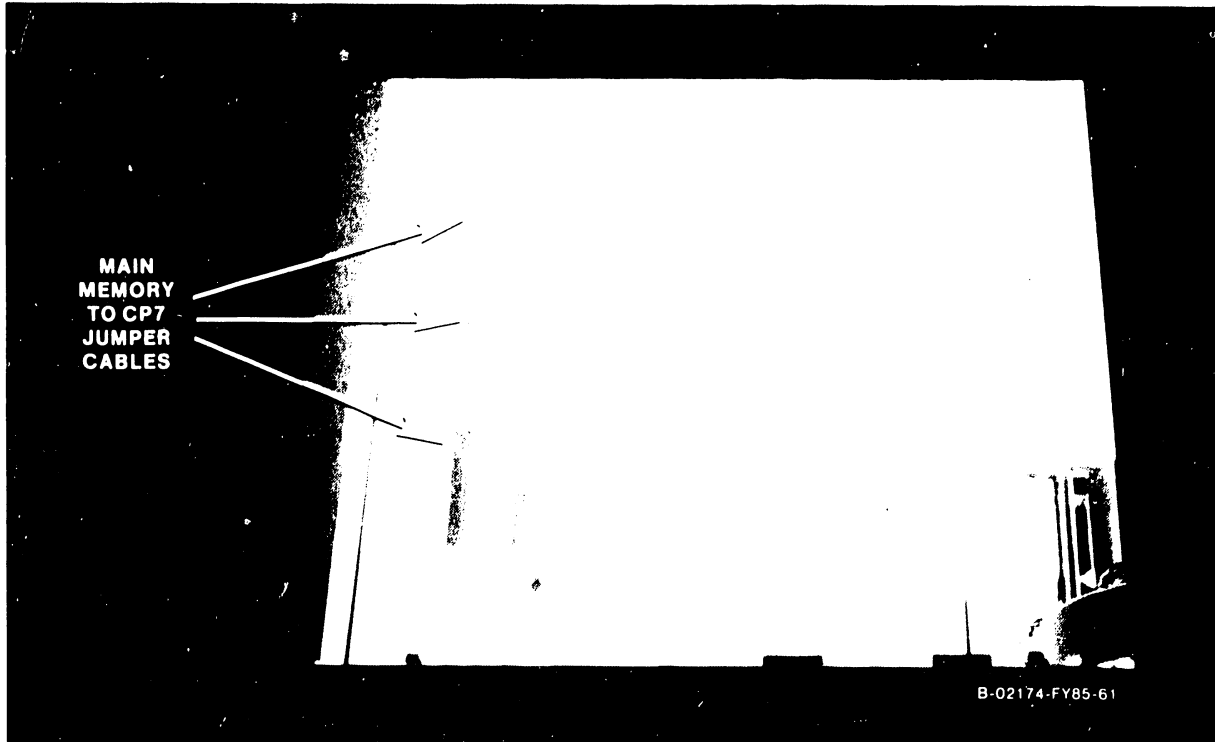

Figure 5-5. Main Memory to Central Processor Jumper Cables
There are three boards found in the VS-65 which make up the Central Processing Unit (CPU). Two of the PCBs, the Main Memory and the CP7 Central Processor, are connected at the top by three 30-contact jumper cables (figure 5-5).
1. Remove the three 30-contact jumper cables (figure 5-5) from each PCB edge connector using a rocking motion between the jumper cable jack and board.